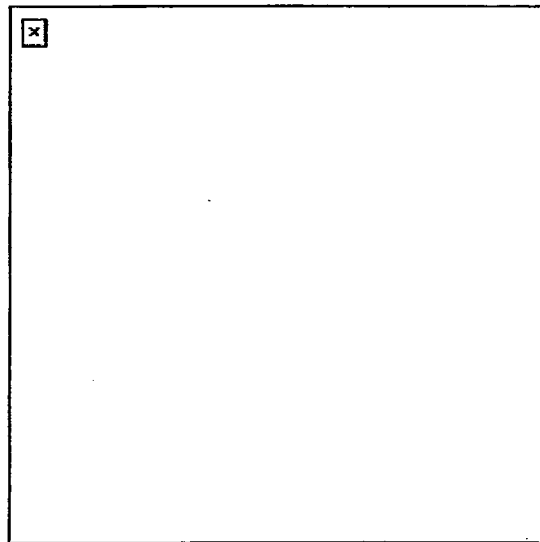

Figure 191-381-1326-1
**Verify the Accuracy of Department of Defense (DD) Form 2718**
1. Ensure that blocks 2 through 13 on the DD Form 2718 are complete and accurate for an internee being permanently released (Figure 191-381-1326-1).